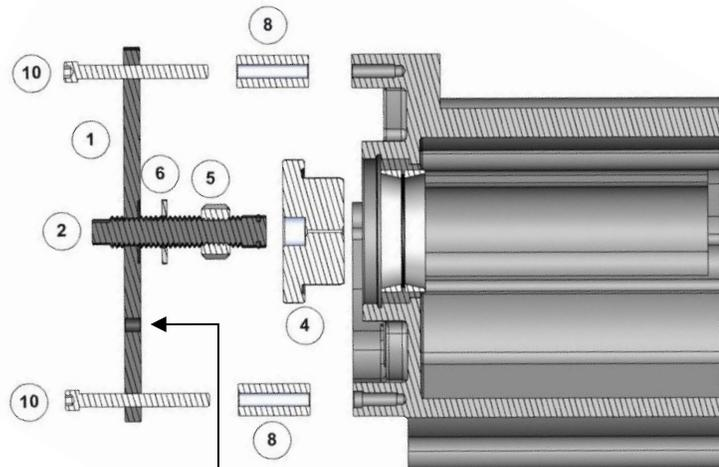

FIGURE 13 | POSITIONAL RELATIONSHIP OF THE TOOLE-GB COMPONENTS FOR TAPERED BEARING ADAPTER INSTALLATION
1. Reference figure 13 for the positional relationships of the tool components required to install the tapered bearing adapter into the transmission case. Loosely assemble the support plate (1) with spacers (8), cap screws (10), threaded shaft (2), and cup (4). Push the cup (4) onto the O-ring end of the threaded shaft (2) until it snaps into position.